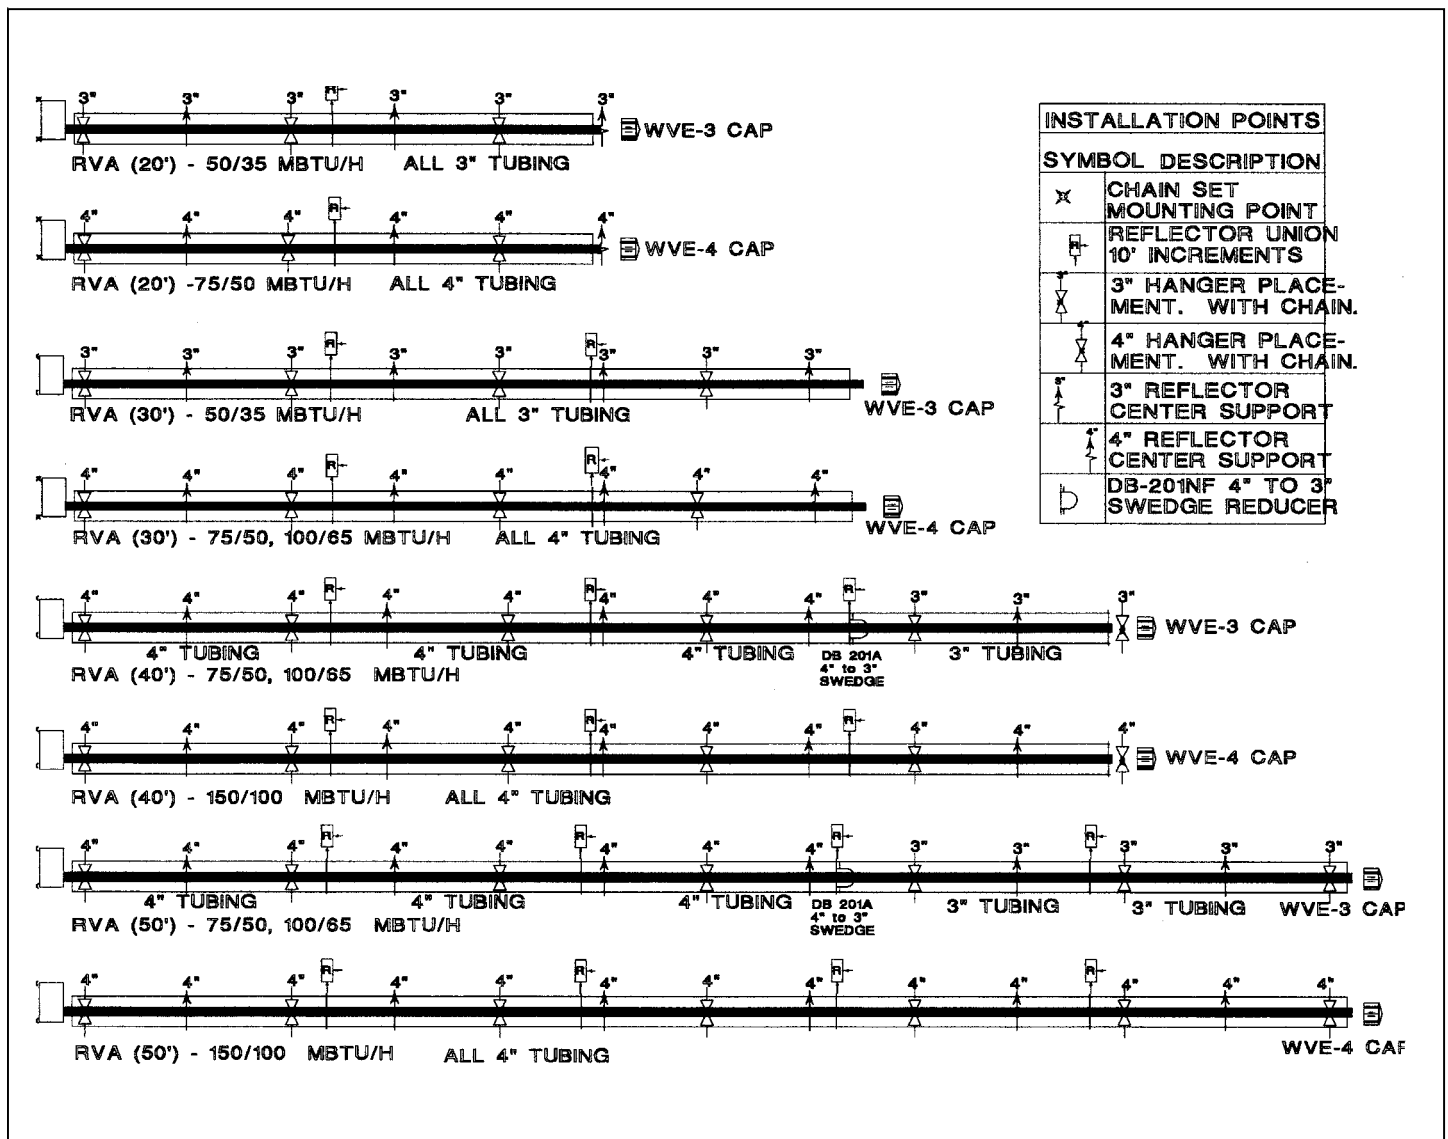

Figure 2-10
1. The RVA Series heaters are designed to be hung on 8' centers as shown in Figure 2-10.